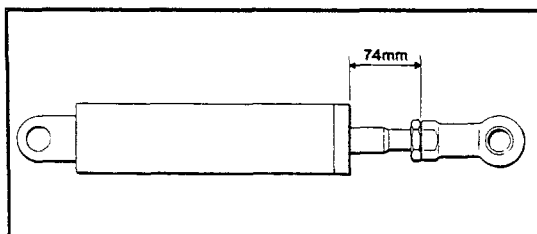

Fig.3.
- (b) Adjust piston rod end to obtain a dimension of 74 mm, See Fig 3.